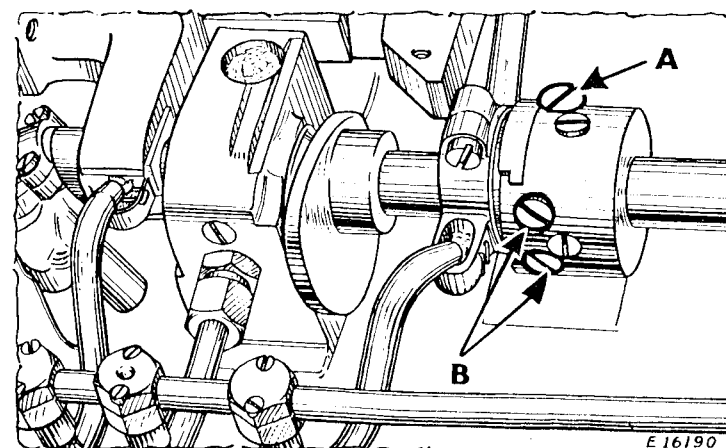

Fig. 8.
The length of stitch is regulated by the large screw (A, Fig. 8) which projects beyond the body of the feed eccentric on the rotary
shaft. To increase the length of stitch, loosen the clamping screws (B, Fig. 8) and turn the large screw (A) over to the left or outward. To shorten the stitch, turn the large screw (A) over to the right or inward. When the desired length of stitch is obtained, securely tighten the clamping screws (B).